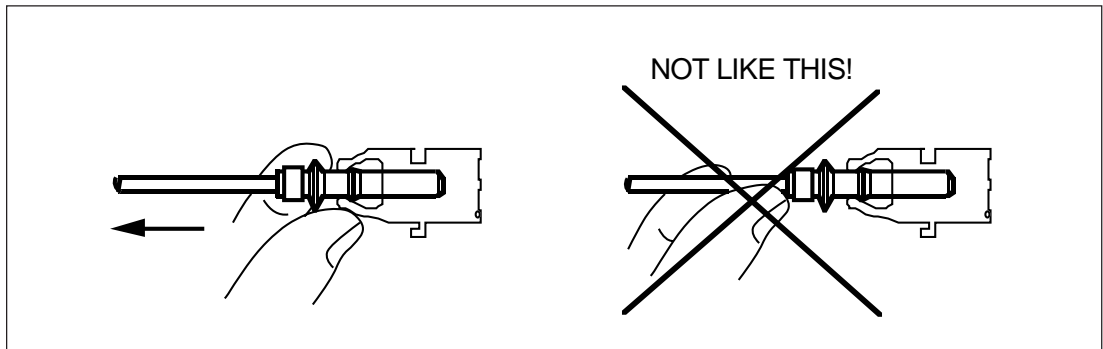

Fig. 5. Unplugging the plastic optical fibre cable from the transmitter/receiver.
N.B. When unplugging the connector from the bus connection module, pull at the connector body (Fig. 5). Pulling on the cable may cause the fastening tie of the cable to move out of its position and the end of the plastic-fibre to slide into the connector. In such a case the light effect is abruptly decreased and the transmission is attenuated. In certain cases, at long cables (>10 m) or a great displacement (>0.5 mm) the transmission may even be interrupted.